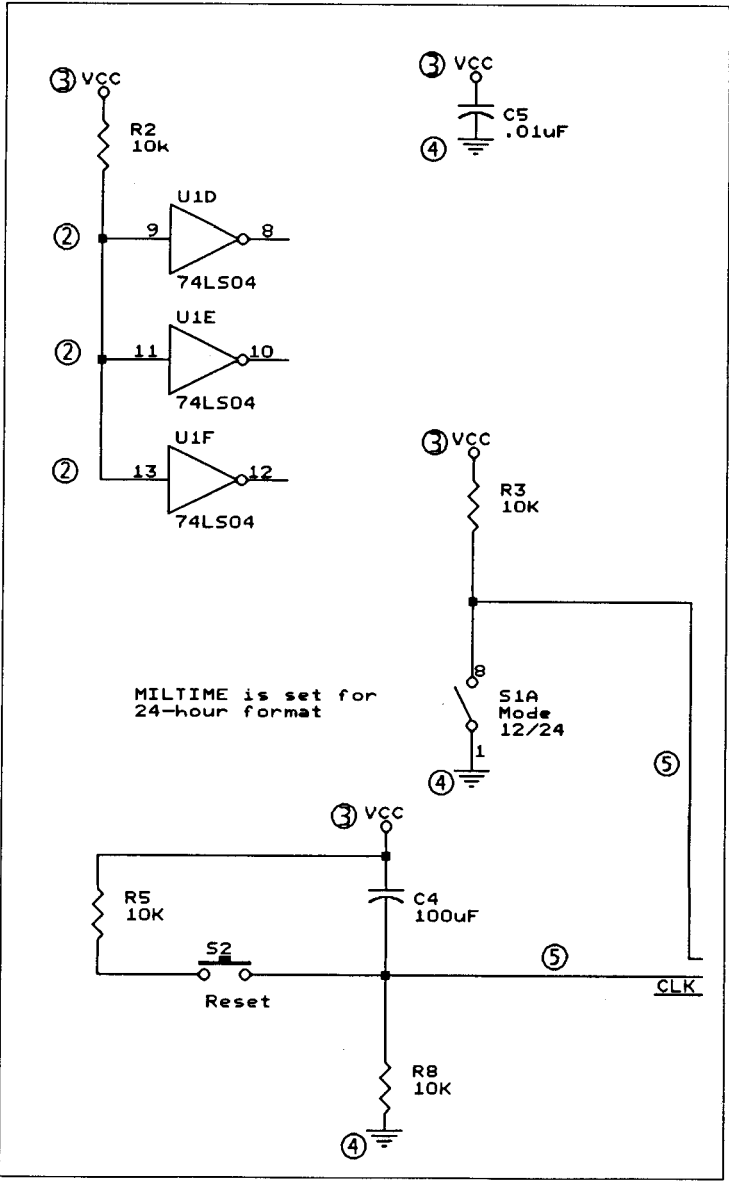

Figure 6-9. Inverters, power symbols, ground symbols, and wires to be placed. The callouts refer to the step numbers in this section.
There are also some leftover parts (from multiple-element parts) to be placed on the schematic. Figure 6-9 shows the arrangement of these parts.
Refer to figure 6-9 as you follow these steps:
2. Get the **74LS04** inverter from **TUTOR.LIB** and place three copies at locations (1.00, 3.20), (1.00, 3.90), and (1.00, 4.60), as shown in figure 6-9.
5. Place wires to connect the remaining parts, as shown in figure 6-9. Be sure to connect the wires to the logic and display circuit at the two places shown in figure 6-9.
6. Inspect the wire intersections and use the **Place Junction** command to add junctions where required, as shown in figure 6-9.